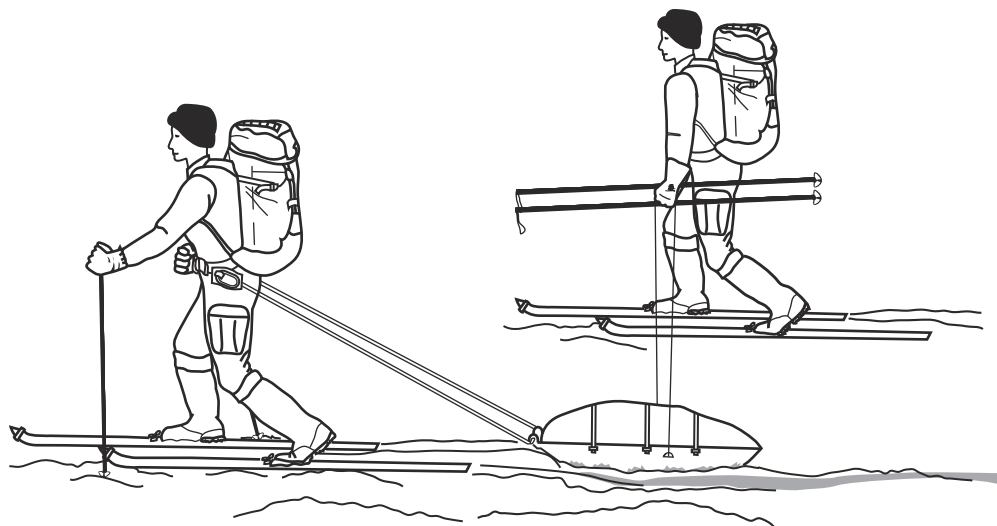

Figure 8-5. Traversing a Moderate Slope.
- Attach a trace to the sled when traversing a moderate slope. A Marine uphill from the sled attaches the trace from himself to both sides of the sled to maintain balance and prevent the sled from sliding out, as shown in figure 8-5.